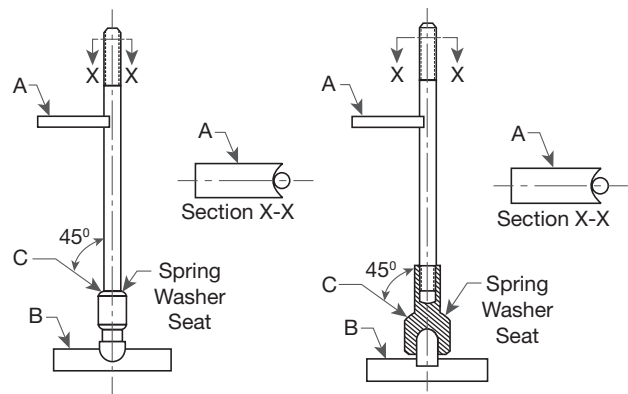

Figure 26: V-Block Support Setup
1. Set up the V-block support (see Figure 26) as follows:
- Place the ball-pointed spindles in a piece of material B that has been recessed to permit free rotation of the spindle (15). For hollow spindles, a ball-pointed support is required.